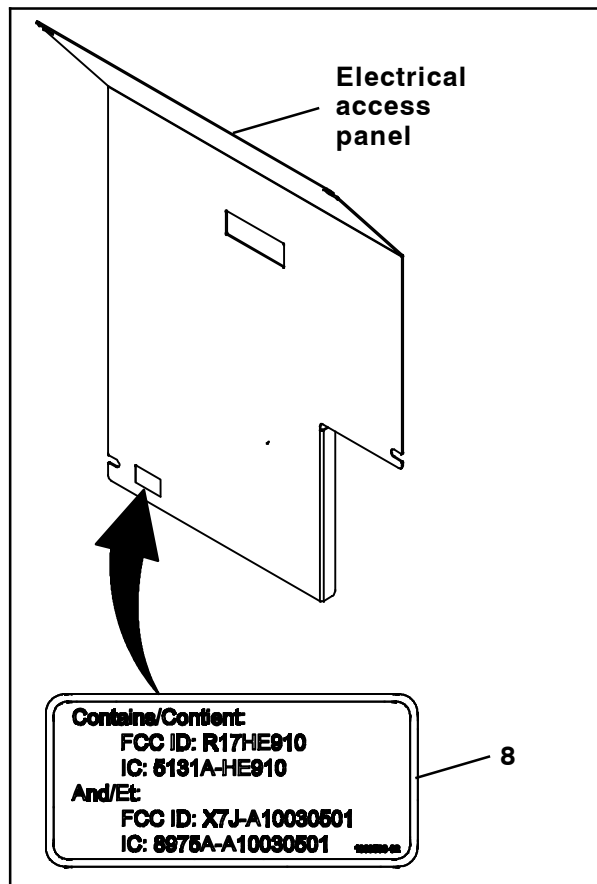

FIG. 22
24. Use cable ties (15) to secure the telemetry harness (12) and antenna (16) cable away from moving parts or areas where they can be caught or damaged.
25. Install the telemetry label (8) onto the electrical access panel. (Fig. 22)